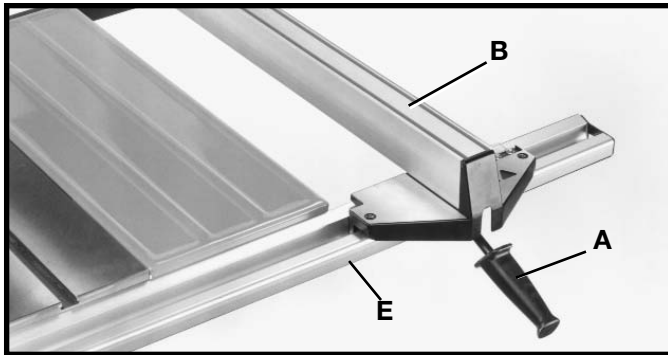

Fig. 12
2. Lower the front of rip fence (B) Fig. 12, onto the front guide rail (E).
3. Lock the rip fence (B) Fig. 12, on the guide rails by pushing down handle (A).